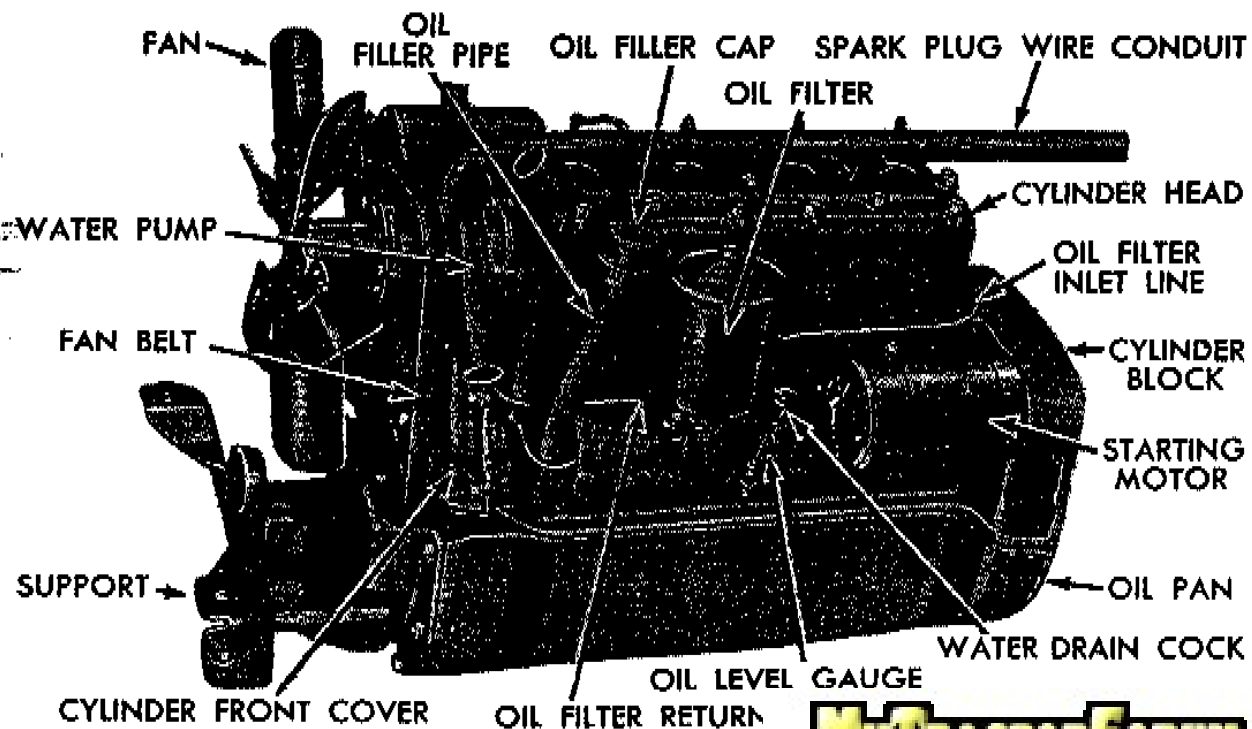

Fig. 1—Left $\frac{3}{4}$ Front View
The Ford 4-cylinder engine (figs. 1 and 2) is of the L-head type, having all cylinders and the upper half of the crankcase cast in one piece. Steel cylinder sleeves are used, which are easily replaced when rebuilding the engine. The distributor is driven directly from the front end of the camshaft.
b. Remove Oil Filter. Disconnect the oil inlet line at the cylinder block. Disconnect the oil return line from the governor. Remove the two cap screws that secure the oil filter bracket to the cylinder head. Remove the oil filter and lines (fig. 1).
e. **Remove Starting Motor.** Loosen the two starting motor cap screws until the starting motor is free of the clutch housing. Lift the starting motor from the engine (fig. 1).
block might be cracked and should be checked thoroughly. Replace the cylinder block if it is cracked. Replace any expansion plugs (fig. 1) that are loose.